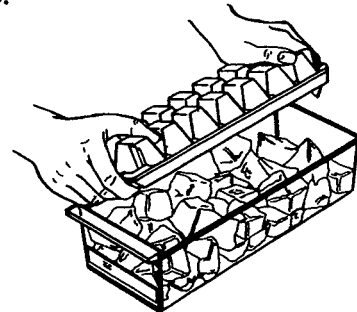

Figure 15.
- Twist in opposite directions until ice pops out. See Figure 15.